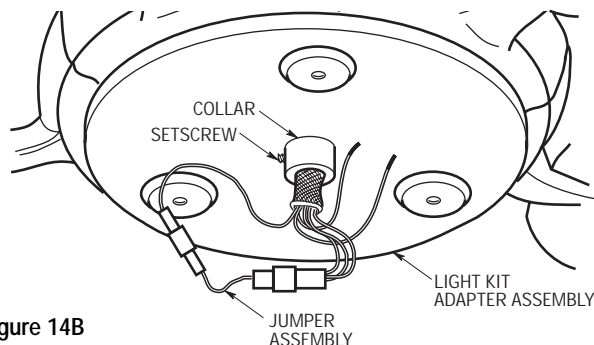

Figure 14B
- 23. Using the 5/64" hex wrench (supplied), loosen the setscrew in the collar on the light kit adapter assembly. Then pass the connectors and the wires from the motor shaft through the collar (Figure 14B). Screw the adapter assembly onto the motor shaft and then tighten the setscrew to secure the adapter assembly to the motor shaft. Connect the connectors from the motor shaft using the jumper assembly (supplied). Verify that the connectors are securely engaged.